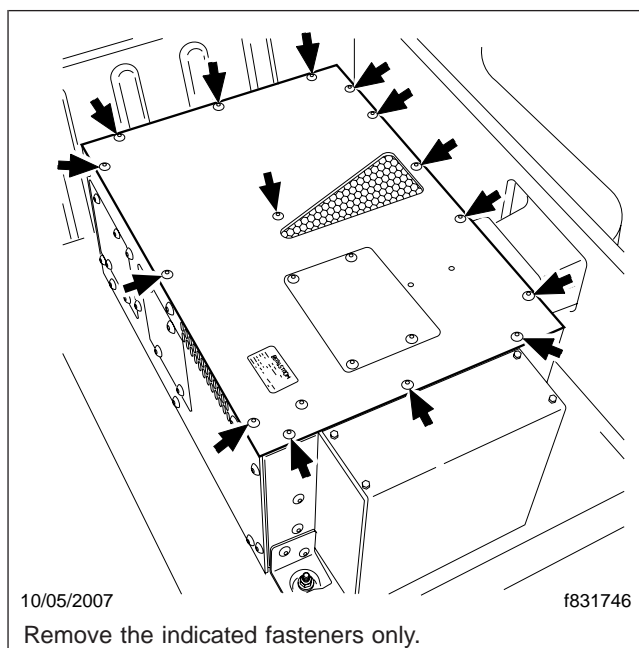

Fig. 1, Top Access Panels
3. Remove the top panel. See Fig. 1.